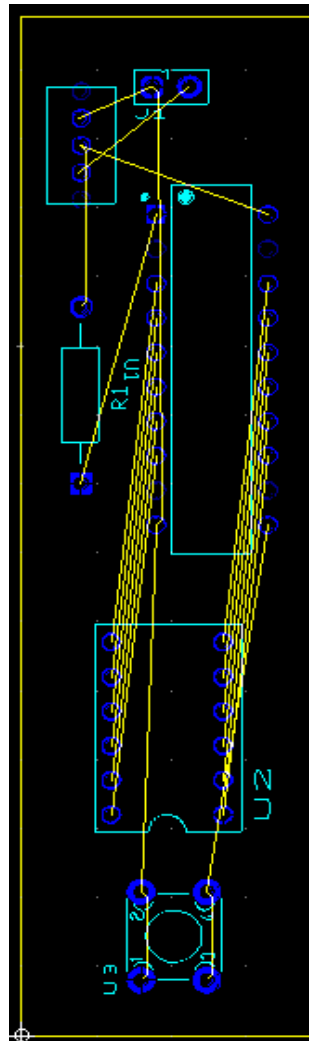

Figure 5: Untangled Rat's Nest on Board
15. Move the components inside the yellow board outline and use CTRL+R to help you rotate them until you reduce the amount of crossing “rat’s nest” wires. Yours should look something similar to figure 5 although feel free to move components around however you would like. Make sure not to get the pins too close to the edge otherwise you won’t have room to route the traces in the upcoming steps.